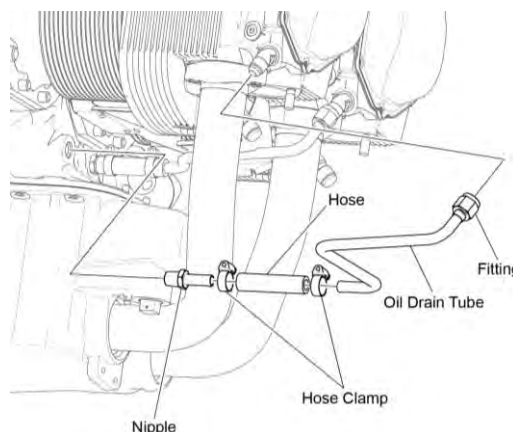

Figure 23
- (1) Connect a new hose to the nipple (Figure 23) in the crankcase.
- (2) Install and tighten a hose clamp on the hose closest to the crankcase.
- (3) Connect the oil drain tube to the elbow at the cylinder with a flange nut. Torque the nut per the latest revision of the *Service Table of Limits - SSP-1776*.
- (4) Connect the hose to the oil drain tube.
- (5) Install and tighten a hose clamp on the hose and oil drain tube connection.
- (6) Torque both hose clamps per instruction in the latest revision of the *Service Table of Limits - SSP-1776*.